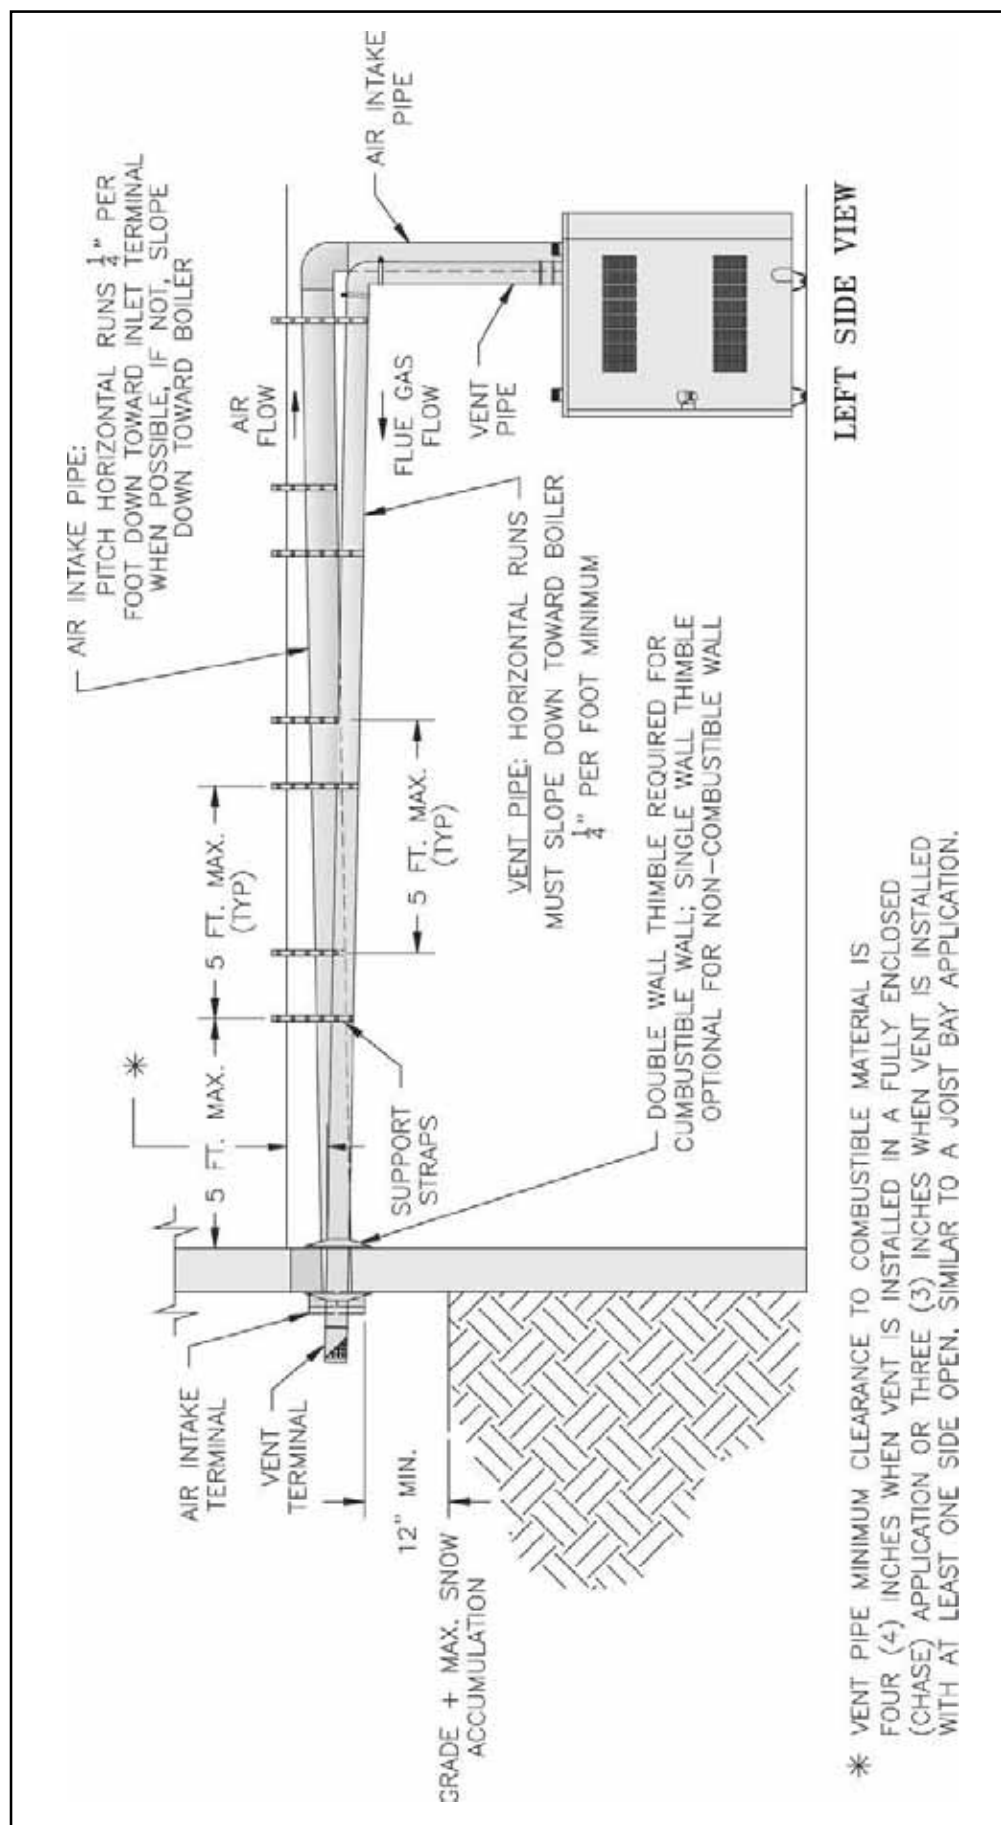

Figure 4: Recommended Separate Horizontal – Vent/Air Intake Installation
F. Separate Horizontal Venting System. See Figures 4 and 5.
3. Recommended horizontal installation consists of vent being sloped down ¼ inch per foot toward boiler. See Figure 4.
Air Intake piping - See Figures 4 and 5.